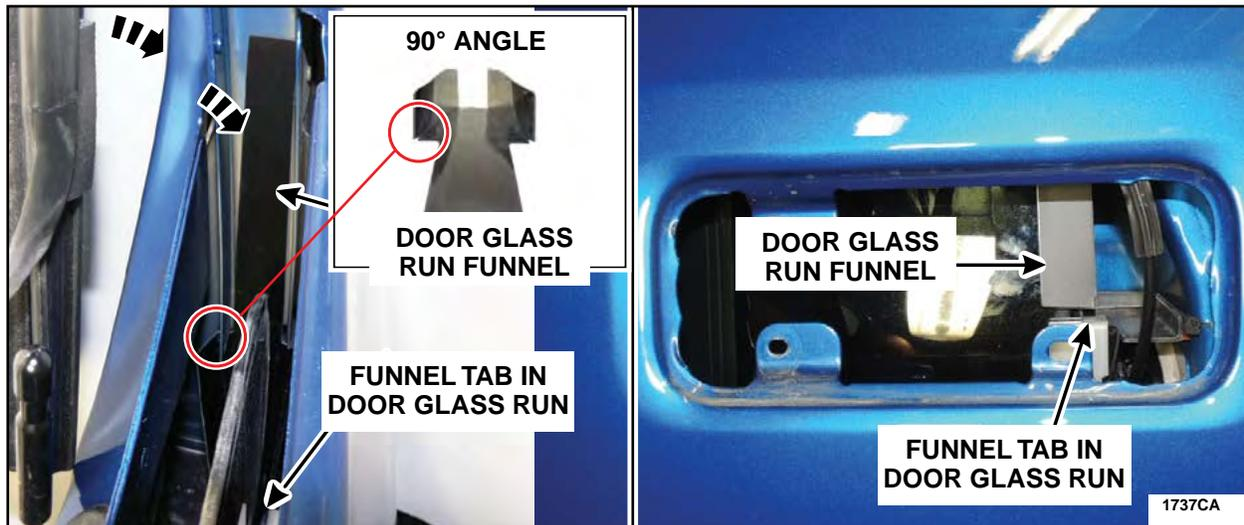

FIGURE 83
8. Install the door glass run funnel (132mm funnel wings), ensuring the lower tab is situated in the door glass run and the funnel sides sit at a 90° angle above the door glass run. Refer to ATTACHMENT V for additional information. See Figure 83.